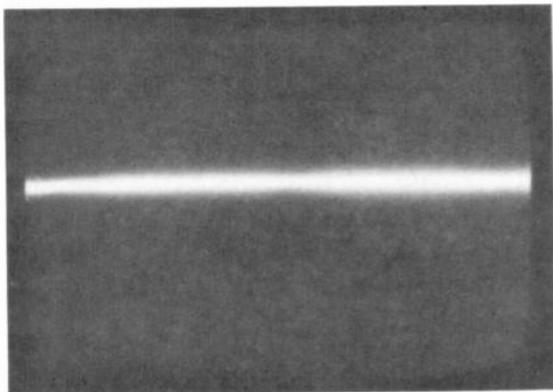
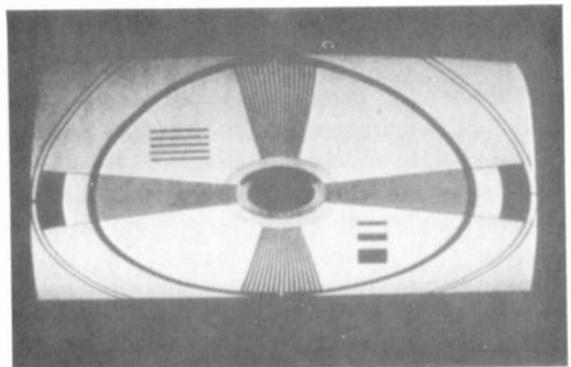

FIGURE 21-17 NO VERTICAL DEFLECTION.
FIGURE 21-18 INSUFFICIENT HEIGHT IN RASTER CAUSED BY WEAK VERTICAL OUTPUT.
**Horizontal line only.** Just a bright line or bar across the middle of the screen, as in Fig. 21-17, means there is no output from the vertical deflection circuits. Often, you can see dark and light picture information moving across the line, which shows video signal is present. This effect of no height can be caused by trouble in any stage of the vertical deflection circuits, including the oscillator, driver, and output stages.
**Insufficient height.** This trouble is generally caused by a weak amplifier in the vertical output circuit. As shown in Fig. 21-18, the screen has black bars at the top and bottom. These areas are not scanned and, therefore, not illuminated. The reduced height can also be caused by reduced dc supply voltage for the vertical amplifier.
12. Troubles in the vertical deflection circuits affect the height of the raster. Two common troubles: (a) just a horizontal line as in Fig. 21-17, caused by no vertical output; (b) insufficient height as in Fig. 21-18, caused by weak vertical output.